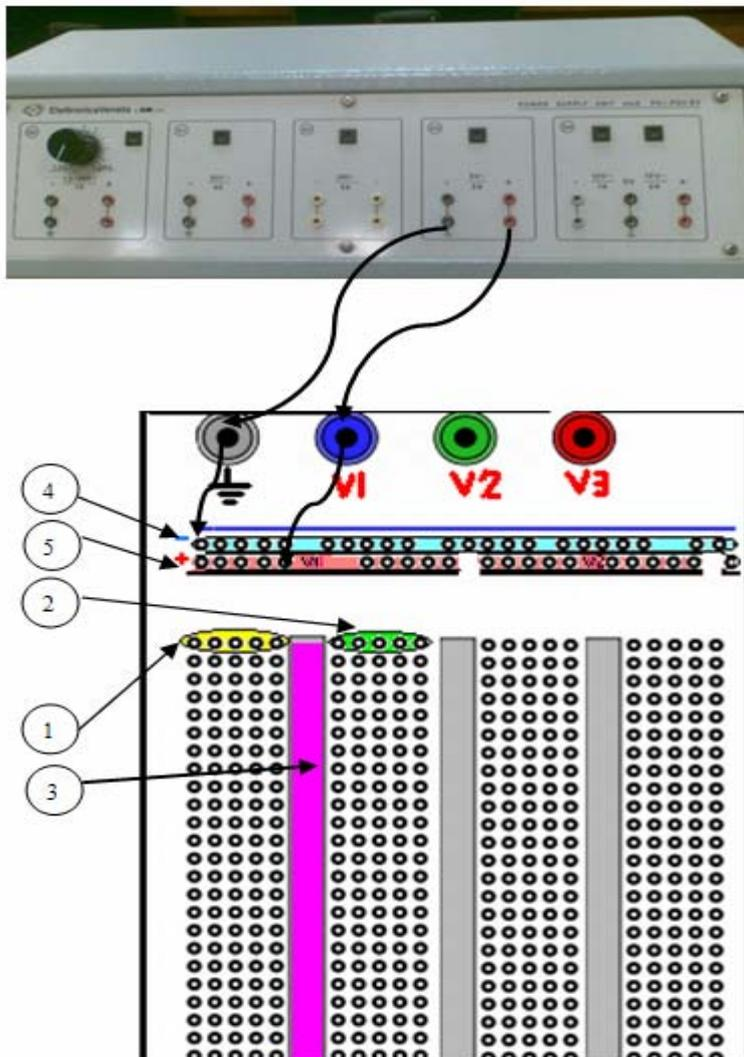

Figure 3
- Holes in the same row (examples highlighted in yellow (1) in Figure3) are electrically connected(they are the same node),holes in other row (highlighted in green (2)) are different node, when you insert a wire into one hole then all the holes in the same node are electrically connected.
- The gap (highlighted in pink (3)) marks a boundary between the electrical connections. A wire inserted in one of the green holes would not be connected to a wire inserted in one of the yellow holes.
- The two top rows of holes at the top highlighted in red and blue are used for power supply connections. The first row (highlighted in blue (4)) is connected to ground, all the holes in this row are electrically connected.
- The second row (highlighted in red (5) ) must connected to 5V , there are 40 holes in this row, each 10 holes are grouped together and electrically connected.